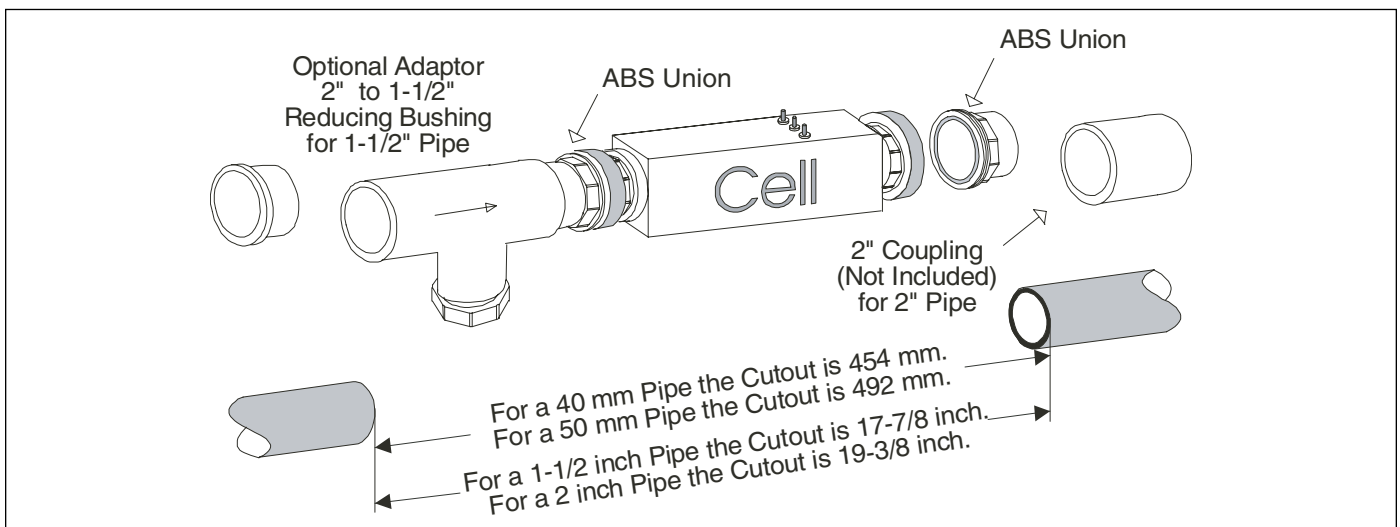

Figure 12. Pipe Cutout
5. If using 1½ inch (40 mm) pipe, cut out a 17 7/8 inch (454 mm) section of pipe to insert the Cell - Flow/Temp/Salinity Sensor Assembly (see Figure 12).
If using 50 mm (2 inch) pipe, cut out a 19 3/8 inch (492 mm) section of pipe to insert the Cell - Flow/Temp/Salinity Sensor Assembly (see Figure 12).